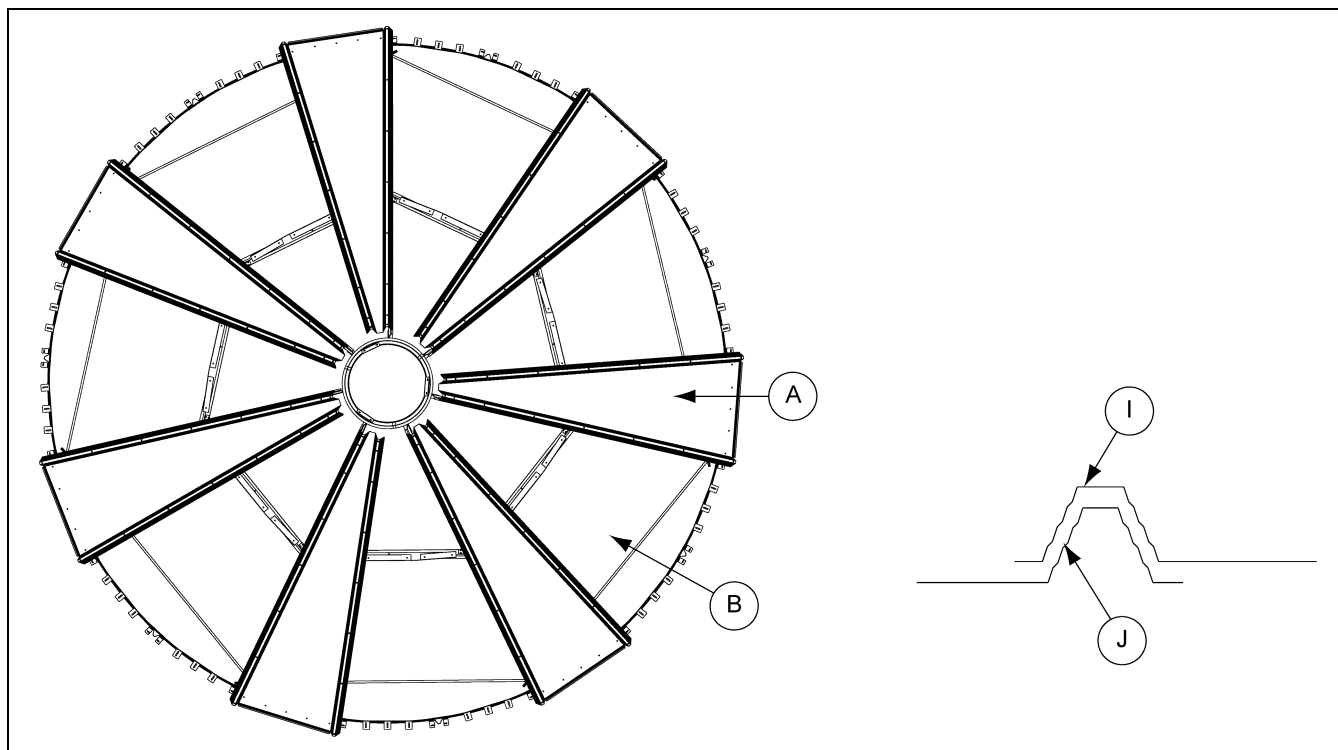

Figure 4P Roof Panel Overview
For adjustment purposes, roof panels (A) are installed to each rafter first, causing exposed gaps (B) between each roof panel (A) group. (See Figure 4P.) After all roof panels are installed, ensure that all installed hardware (flange bolts with sealing washers and flange nuts) are tightened to secure the roof panels.